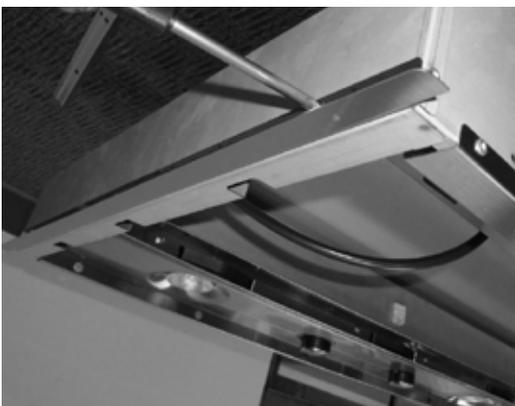

FIGURE 15
2. Remove the white plastic covering and Install the 4 side trim pieces to the outside of the hood using (16) part 9b screws, see the side rail installation in (FIGURE 15).